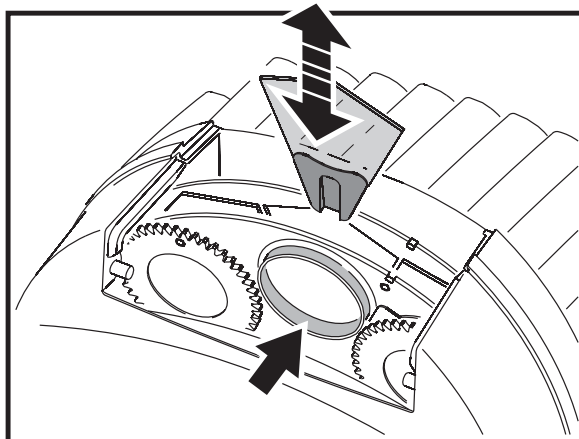

Figure 10: Changing gobos and filters
5. To remove a color filter, turn the gobo wheel so that the open position (arrowed in Figure 10) is in front of the filter. Gently press the filter towards the lens to release it and then grasp it by the edges and remove it. If your fingers are too large, protect the glass with a piece of paper that has been folded several times and grasp the filter with needle nose pliers.